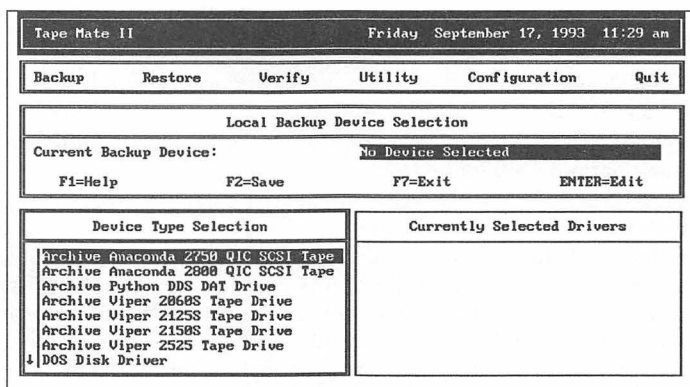

Figure 25 Local Backup Device Selection Dialog Box
- 2 A message indicates that no devices were found in the configuration file. Press [Esc] to open the Local Backup Device Selection dialog box, shown in *Figure 25*.